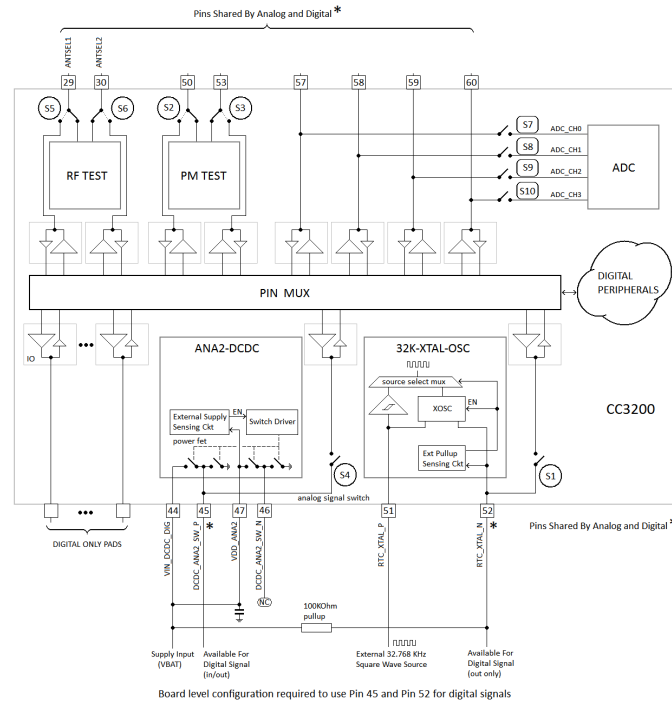

Figure 3-2. Board Configuration to Use Pins 45 and 52 as Digital Signals
- (1) LPDS mode: The state of unused GPIOs in LPDS is input with 500 kΩ pull-down. For all used GPIOs, the user can enable internal pulls, which would hold them in a valid state.
- (2) Hibernate mode: The CC3200 device leaves the digital pins in a Hi-Z state without any internal pulls when the device enters hibernate state. This can cause glitches on output lines unless held at valid levels by external resistors.
- (3) To minimize leakage in some serial flash vendors during LPDS, TI recommends the user application always enable internal weak pull-downs on FLASH_SPI_DATA and FLASH_SPI_CLK pins.
- (4) This pin has dual functions: as a SOP[2] (device operation mode), and as an external TCXO enable. As a TXCO enable, the pin is an output on power up and driven logic high. During hibernate low-power mode, the pin is in a high impedance state but pulled down for SOP mode to disable TCXO. Because of SOP functionality, the pin must be used as output only.
- (5) Higher leakage current from the onboard serial flash can occur due to floating inputs when the device enters Hibernate mode. See reference schematics for recommended pull-up and pull-down resistors.
- (6) For details on proper use, see Section 3.2, Drive Strength and Reset States for Analog-Digital Multiplexed Pins.
- (7) This pin is one of three that must have a passive pullup or pulldown resistor on board to configure the chip hardware power-up mode. Because of this reason, if this pin is used for digital functions, it must be output only.
- (8) This pin is reserved for WLAN antenna selection, controlling an external RF switch that multiplexes the RF pin of the CC3200 device between two antennas. These pins should not be used for other functionalities in general.
- (9) Device firmware automatically enables the digital path during ROM boot.
- (10) Pin 45 is used by an internal DC-DC (ANA2_DCDC) and pin 52 is used by the RTC XTAL oscillator. These modules use automatic configuration sensing. Therefore, some board-level configuration is required to use pin 45 and pin 52 as digital pads (see Figure 3-2). Because the CC3200R device does not require ANA2_DCDC, the pin can always be used for digital functions. However, pin 47 must be shorted to the supply input. Typically, pin 52 is used for RTC XTAL in most applications. However, in some applications a 32.768-kHz square-wave clock might always be available onboard. In such cases, the XTAL can be removed to free up pin 52 for digital functions. The external clock must then be applied at pin 51. For the chip to automatically detect this configuration, a 100K pull-up resistor must be connected between pin 52 and the supply line. To prevent false detection, TI recommends using pin 52 for output-only functions.
- (11) VDD_FLASH must be shorted to V_{supply}.
- (12) To use the digital functions, RTC_XTAL_N must be pulled high to V_{supply} using 100-KΩ resistor.
- (13) This pin is shared by the ADC inputs and digital I/O pad cells. Important: The ADC inputs are tolerant up to 1.8 V. On the other hand, the digital pads can tolerate up to 3.6 V. Hence, care must be taken to prevent accidental damage to the ADC inputs. TI recommends that the output buffer(s) of the digital I/Os corresponding to the desired ADC channel be disabled first (that is, converted to high-impedance state), and thereafter the respective pass switches (S7, S8, S9, S10) should be enabled (see Section 3.2, Drive Strength and Reset States for Analog-Digital Multiplexed Pins).
- (14) Requires user configuration to enable the ADC channel analog switch. (The switch is off by default.) The digital I/O is always connected and must be made Hi-Z before enabling the ADC switch.